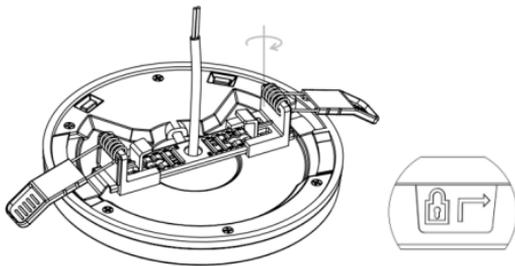

Fig. 4
- Assemble the luminaire to the bracket by turning clockwise until ends of the bracket sit within grooves of casing and lock into position (see Fig. 4)